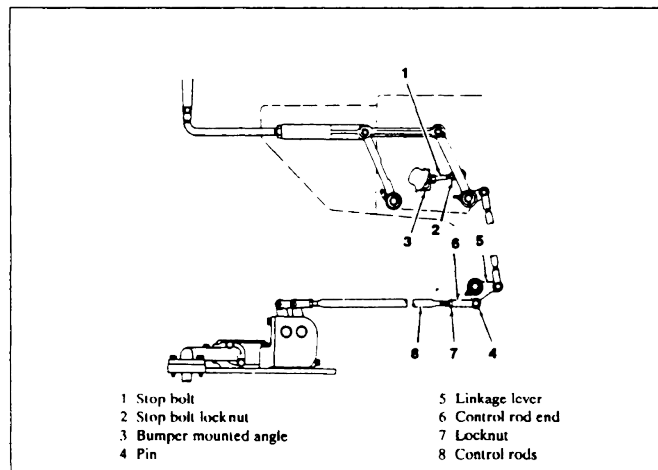

FIGURE 8. STEERING CLUTCH LINKAGE
Step 3. Check the adjustment of the steering clutch linkage (Figure 8). Use the following procedures from the operator's manual.